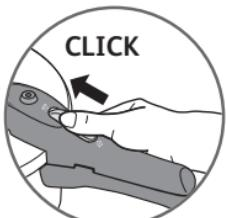

Fig 4
- Push the opening knob (E) to move it to the position - Fig 4